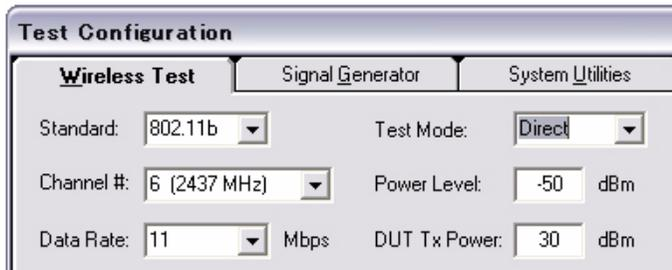

Figure 9-2.
2. Set the “Test Mode” to “Direct” (see Figure 9-2 below).